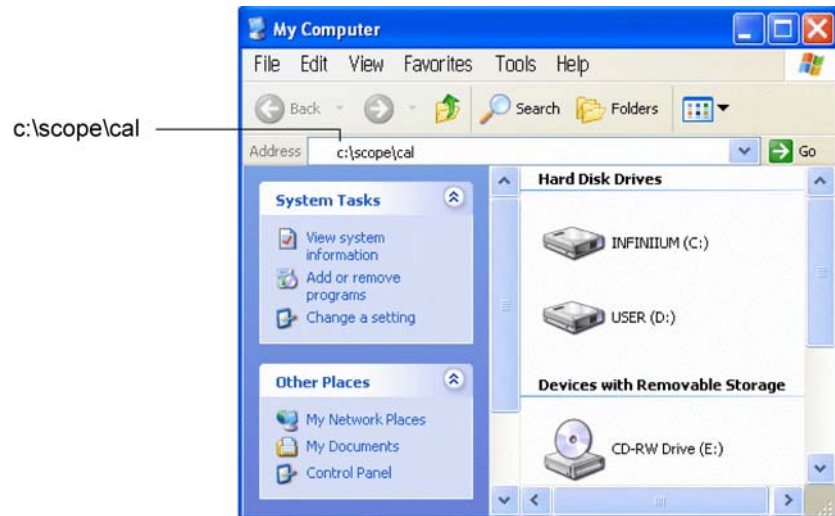

Figure 1-26. Locating the file framecal.dat
- e Enter the path, `c : \scope\ca1`, in the address line as shown in Figure 1-26
- d** Copy this file and paste the file into the folder, c:\scope\cal. Locate the folder by entering the path, c:\scope\cal, in My Computer as shown in Figure 1-26. Click OK to overwrite the current file.